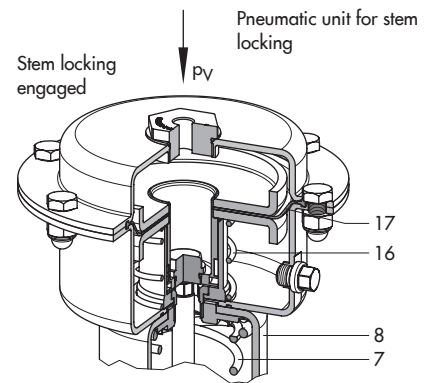
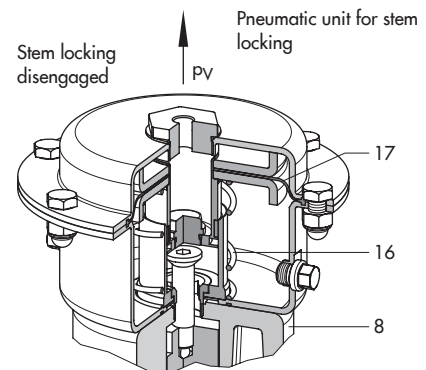

Fig. 4.1: Pneumatic stem locking: Type 2371-10/-11
Fig. 4.2: Pneumatic stem locking: Type 2371-10/-11
Pneumatic stem locking (see Fig. 4.1 and Fig. 4.2)
To switch the valve back to its control function, remove the pressure $p_V (= 1 \text{ bar})$. The spring (16) pulls the actuating unit back, allowing the plug stem to move again for the control task (see Fig. 4.2).
To switch the valve back to its control function, remove the pressure $p_V (= 6 \text{ bar})$. The spring (16) pulls the actuating unit back, allowing the plug stem to move again for the control task (see Fig. 4.2).